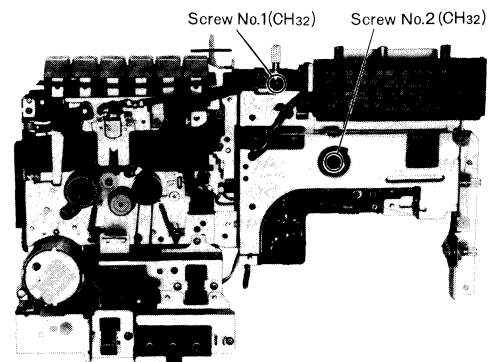

Fig. 5
2. Remove two (2) dial drum and PC Board screws, nos. 1 & 2, as illustrated in fig. 5.